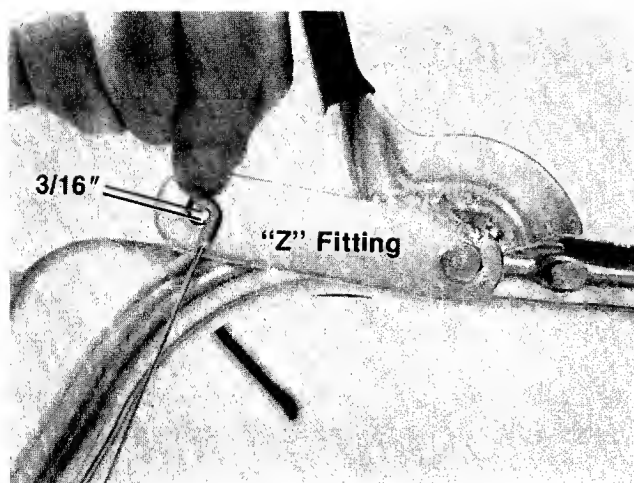

FIGURE 5.
3. Place the clutch grip on the left handle in the raised position. Hold the "Z" end of the cable against the clutch grip as shown in figure 5. Adjust the lower hex nut (underneath the cable bracket) so that the middle of the "Z" fitting is $\frac{3}{16}$ " above the bottom of the hole on the clutch grip as shown in figure 5.